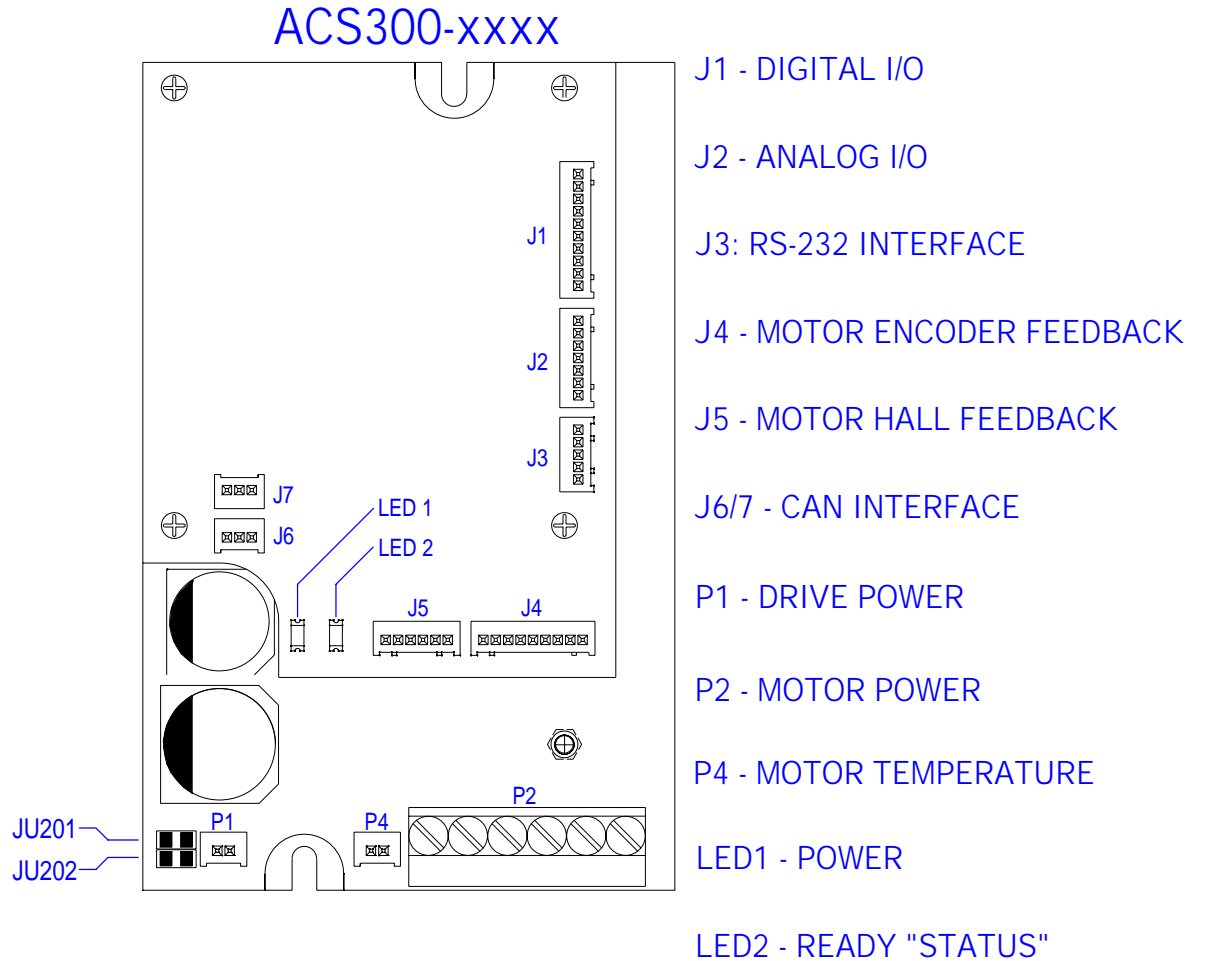

Figure 2: ACS300 Connector Layout
- ❖ Jumpers JU201 and JU202 are located next to the power input connector P1; See Figure 2.
Drive specific I/O operates independent of the user selected operating mode. Drive specific I/O signals have fixed functionality. These signals are used to interface the ACS300 to an outside control system. They provide signals for enabling, disabling, and monitoring the status of the ACS300. For visual reference to the ACS300 connectors, see Figure 2 below.